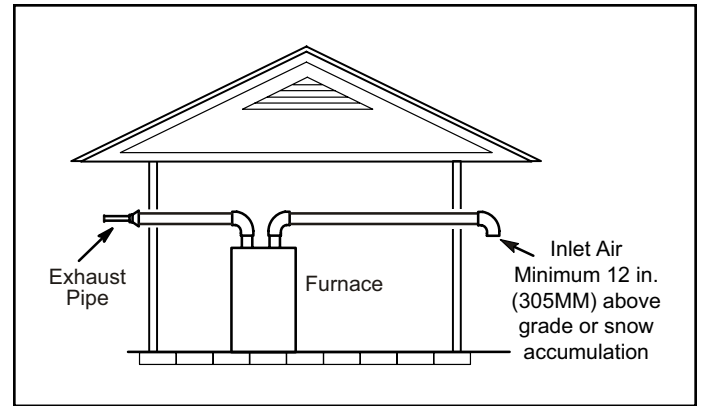
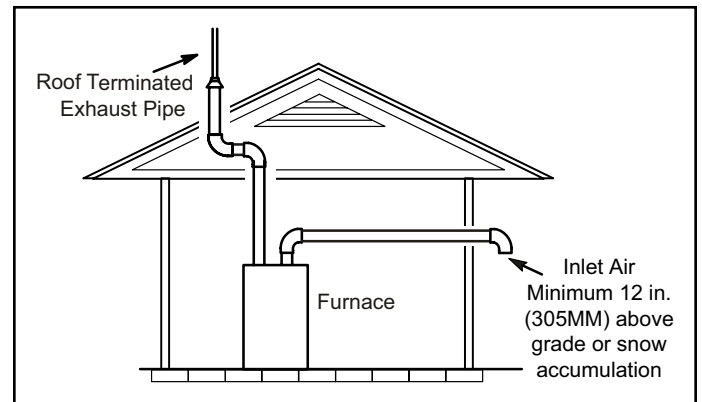

Figure 37. Exiting Exhaust and Intake Vent (no common pressure zone)
Figure 38. Exiting Exhaust and Intake Vent (no common pressure zone)
1. Intake and exhaust terminations are not required to be in the same pressure zone. You may exit the intake on one side of the structure and the exhaust on another side (Figure 37). You may exit the exhaust out the roof and the intake out the side of the structure (Figure 38).